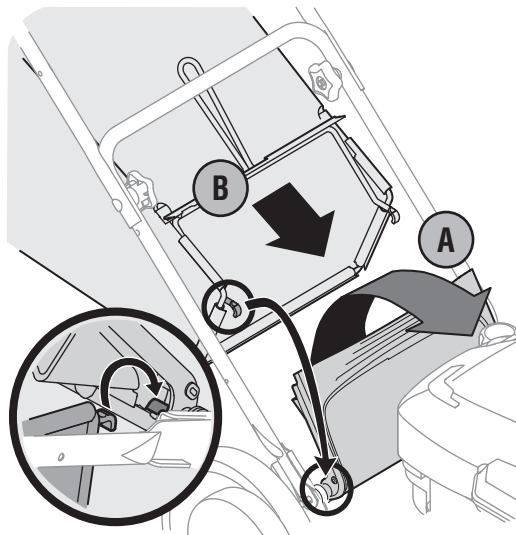

Figure 3-7
- a. Lift the rear discharge door on the mower, and place the grass catcher on the pivot rod. Let go of discharge door so that it rests on the grass catcher. See Figure 3-7.
- a. Lift rear discharge door on the mower as shown in Figure 3-7. Lift grass catcher up and out, off of the pivot rod. Release rear discharge door to allow it to close rear opening of mower.